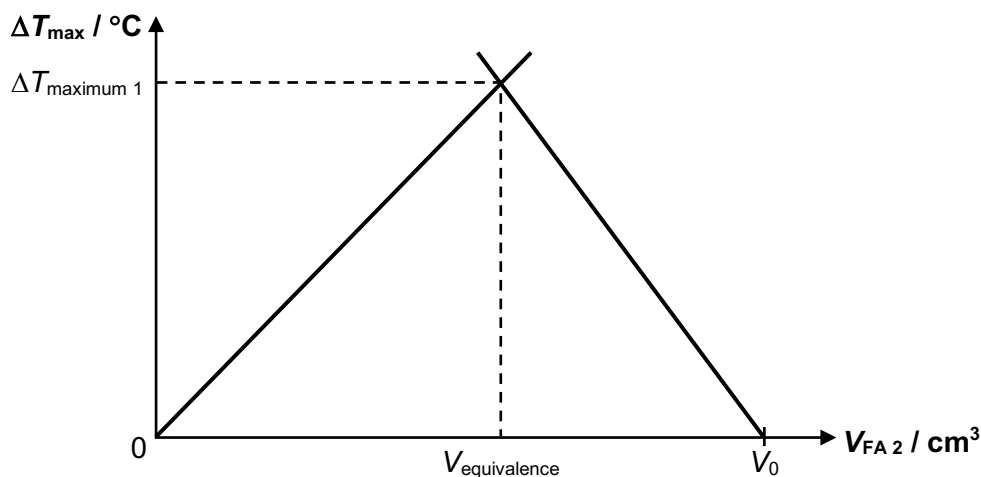

Fig. 1.1
ΔT_{max} is plotted against the volume of **FA 2** used, $V_{\text{FA 2}}$. $V_{\text{equivalence}}$ and $\Delta T_{\text{maximum 1}}$ are determined from the intersection of the two straight lines drawn as shown in Fig. 1.1.
- (i) Suggest a value for V_0 in Fig. 1.1.